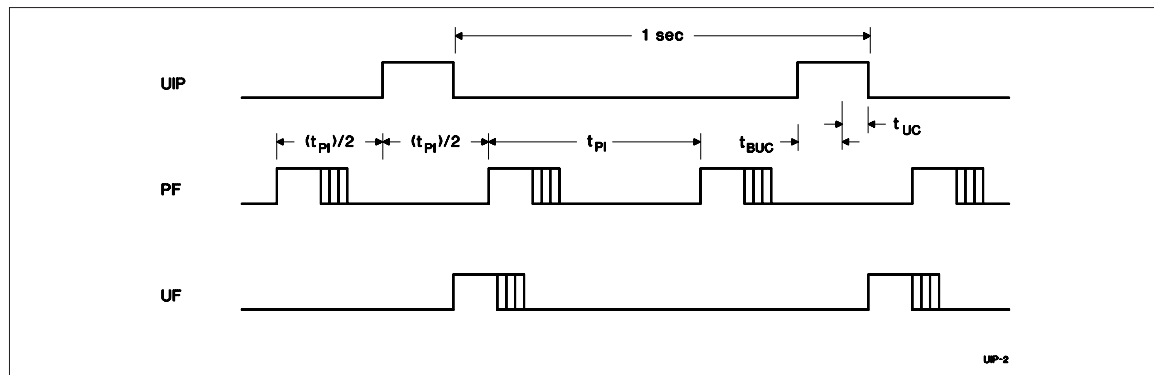

Figure 3. Update-Ended/Periodic Interrupt Relationship
- Enable the update interrupt event to generate interrupt requests at the end of the update cycle. The interrupt handler has a maximum of 999ms to access the clock bytes before the next update cycle begins (see Figure 3).
- Poll the update-in-progress bit (UIP) in register A. If $UIP = 0$, the polling routine has a minimum of t_{BUC} time to access the clock bytes (see Figure 3).
- Use the periodic interrupt event to generate interrupt requests every t_{PI} time, such that $UIP = 1$ always occurs between the periodic interrupts. The interrupt handler will have a minimum of $t_{PI}/2 + t_{BUC}$ time to access the clock bytes (see Figure 3).